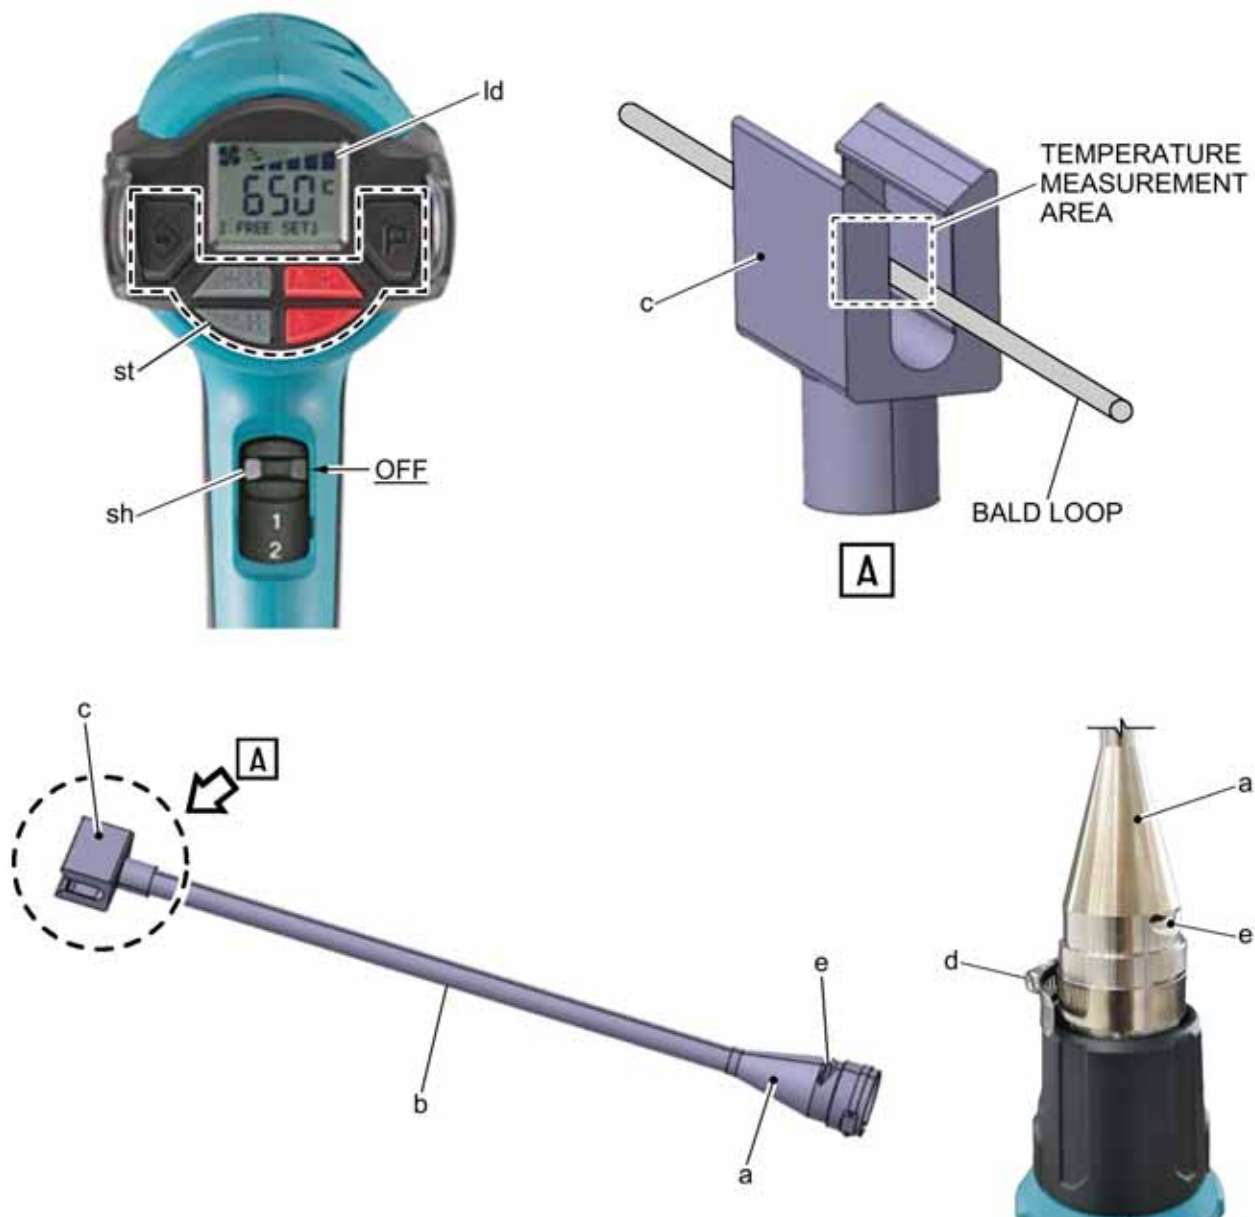

Figure 1: USE OF HOT AIR GUN WITH WIDE BLOWER NOZZLE
NOTE 1: For each point tested, the BALD loop must be as close as possible to the center of the nozzle airflow, as shown on **fig. 1**.
- (5) Adjust the hot air gun temperature and test all the other test points (refer to steps 2.C.(3) and 2.C.(4)).
- (6) Once all the test points that require the wide blower nozzle have been checked, slide the switch (**sh-fig. 1**) to the OFF position and stow the hot air gun in a safe location to cool down.